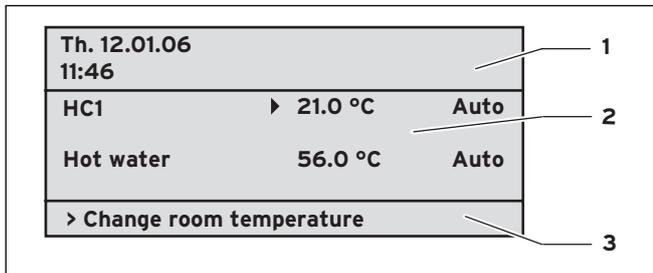

Fig. 4.2 Overview display (example basic display)
- Basic display (Fig. 4.2)
The operating concept described below applies to the basic display (Fig. 4.2) and to the various different display/input screens of the user level.
Initial condition: You are in the basic display (see Fig. 4.2). A description of how to navigate to the basic display is provided in Section 4.3.3.
You can navigate from the default display to the next screen by clicking one or both dials (see Fig. 4.2).